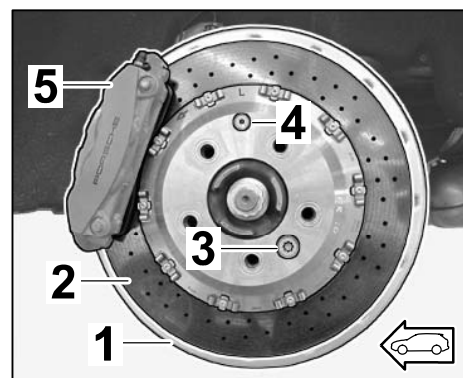

Figure 14
- 3.5.6 Fit new brake disc screw plug (M12 x 1.5 x 5.0, 1 ea., ⇒ Figure 14 -4-) on each brake disc.